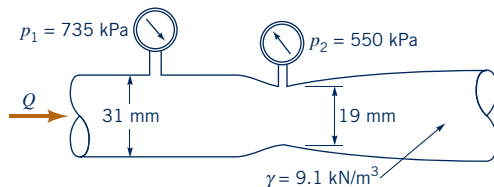

Figure P3.116
3.116 Determine the flowrate through the Venturi meter shown in Fig. P3.116 if ideal conditions exist.